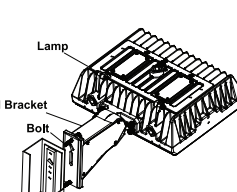
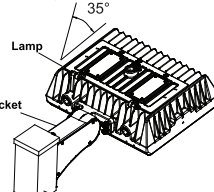

Figure 30
Figure 31
Step 2: Fix DM bracket to square pole with bolt( Figure 30,Figure 31)
Notice: 1、 Adjustable angle is 0-35°(Figure 31)